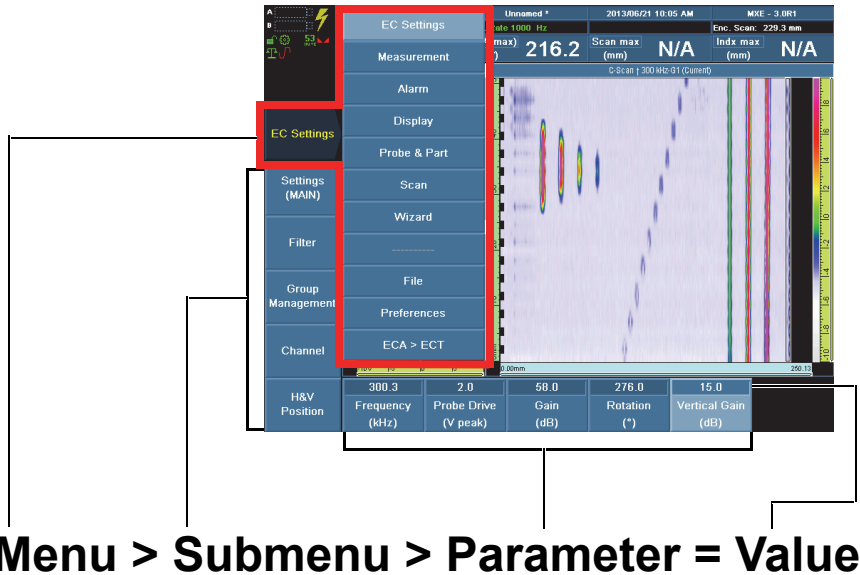

Figure 2-6 Menu, submenu, parameter structure, and navigation syntax
The OmniScan MXE software user interface provides access to parameters using three levels of buttons arranged on the left side and at the bottom of the screen. Figure 2-6 on page 20 outlines the syntax used throughout this document to specify the selection of menu, submenu, parameter buttons, and when to enter or select parameter values.
The navigation syntax outlined in Figure 2-6 on page 20 is a short expression of the procedure detailed in section 2.3.1 on page 20.
1. Press the menu button, and then choose the desired item from the menu list that appears on the right of the button (see Figure 2-6 on page 20).